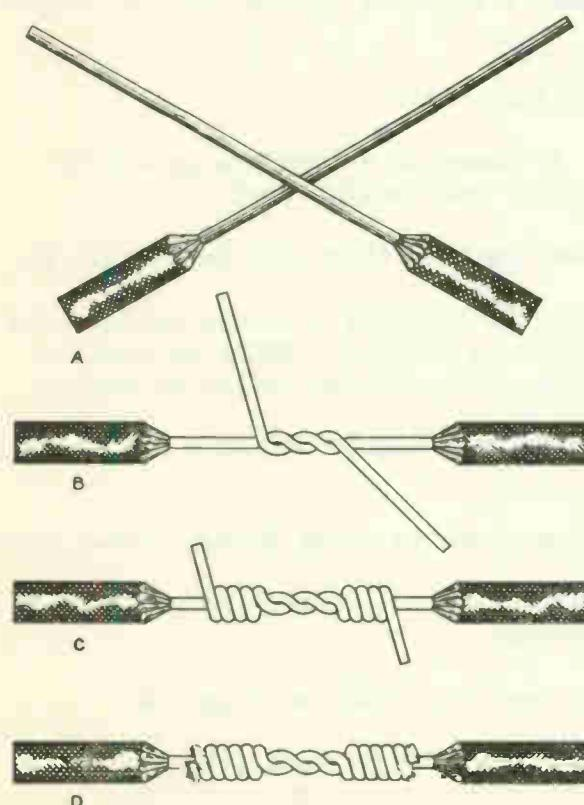

Fig. 3 Western Union splice
7. Make the western union splice, Fig. 3, by first stripping and cleaning 4 inches from the end of #14 wire. Follow each step carefully being sure to have no less than three and no more than five twists. CAUTION: Be sure to wrap the ends so that on each wire there will be a very small space from the last wrap to the insulation, otherwise a weak spot results. Wrap at least five no more than ten turns. Refer to Fig. 3D.
2. Study Fig. 3 to learn equipment needed and how it is to be connected.